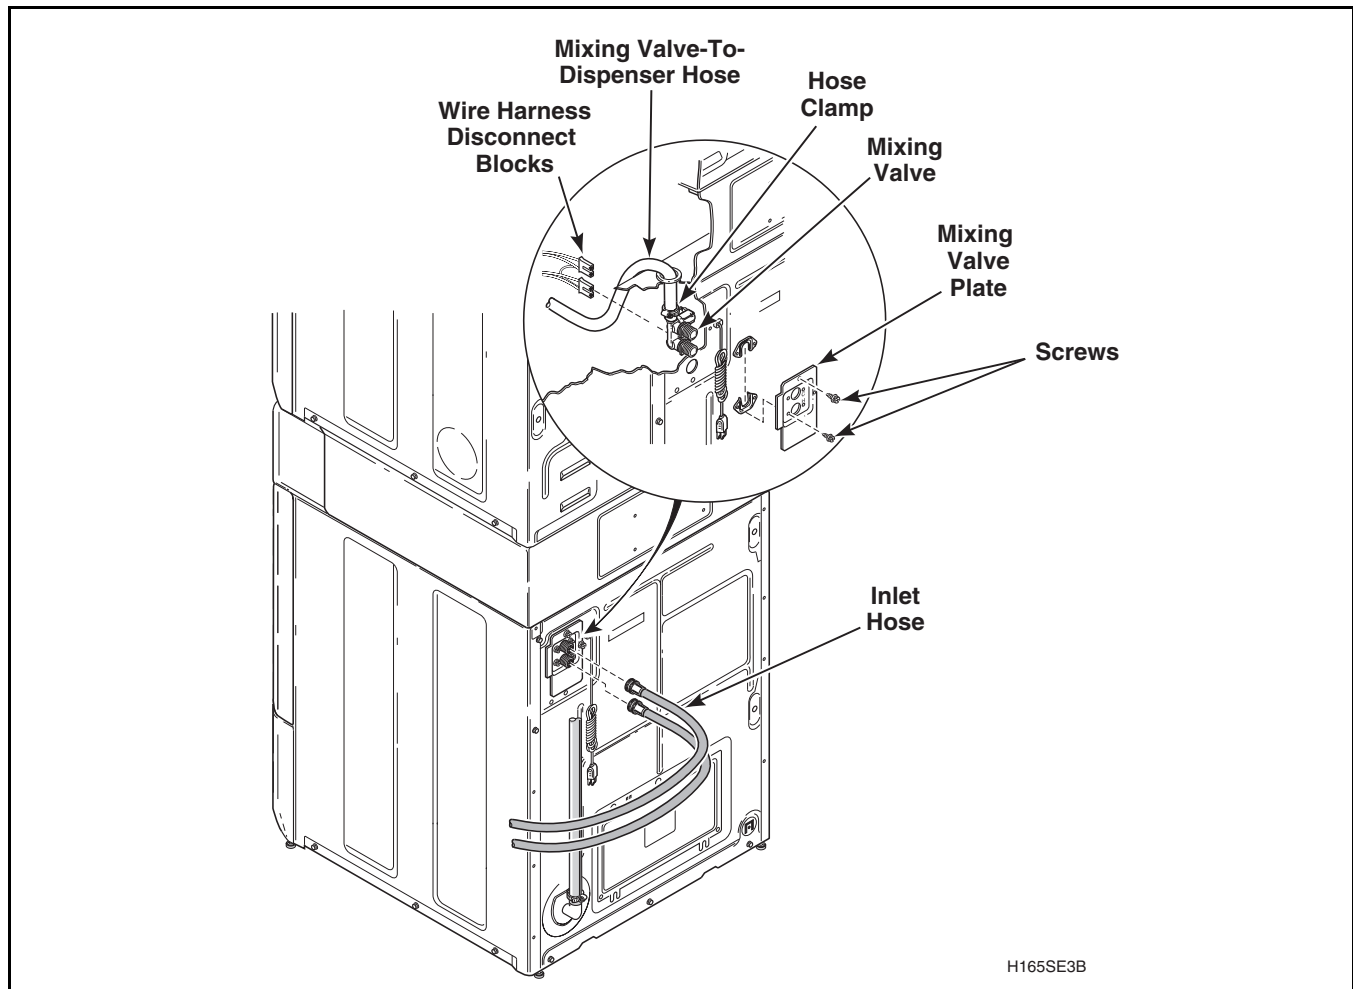

Figure 12
NOTE: Mixing valve is located on upper back right corner of rear panel. Refer to *Figure 12*.
- b. Go to rear of washer and remove screw holding mixing valve and plate to rear panel, then remove valve and plate out through opening in rear panel. Refer to *Figure 12*.
- c. Remove screws holding valve to mixing valve plate. Refer to *Figure 12*.
- d. Loosen hose clamp and remove mixing valve-to-dispenser hose at the mixing valve. Refer to *Figure 12*.
- e. Remove wire harness disconnect blocks from mixing valve solenoid terminals. Refer to *Figure 12*.